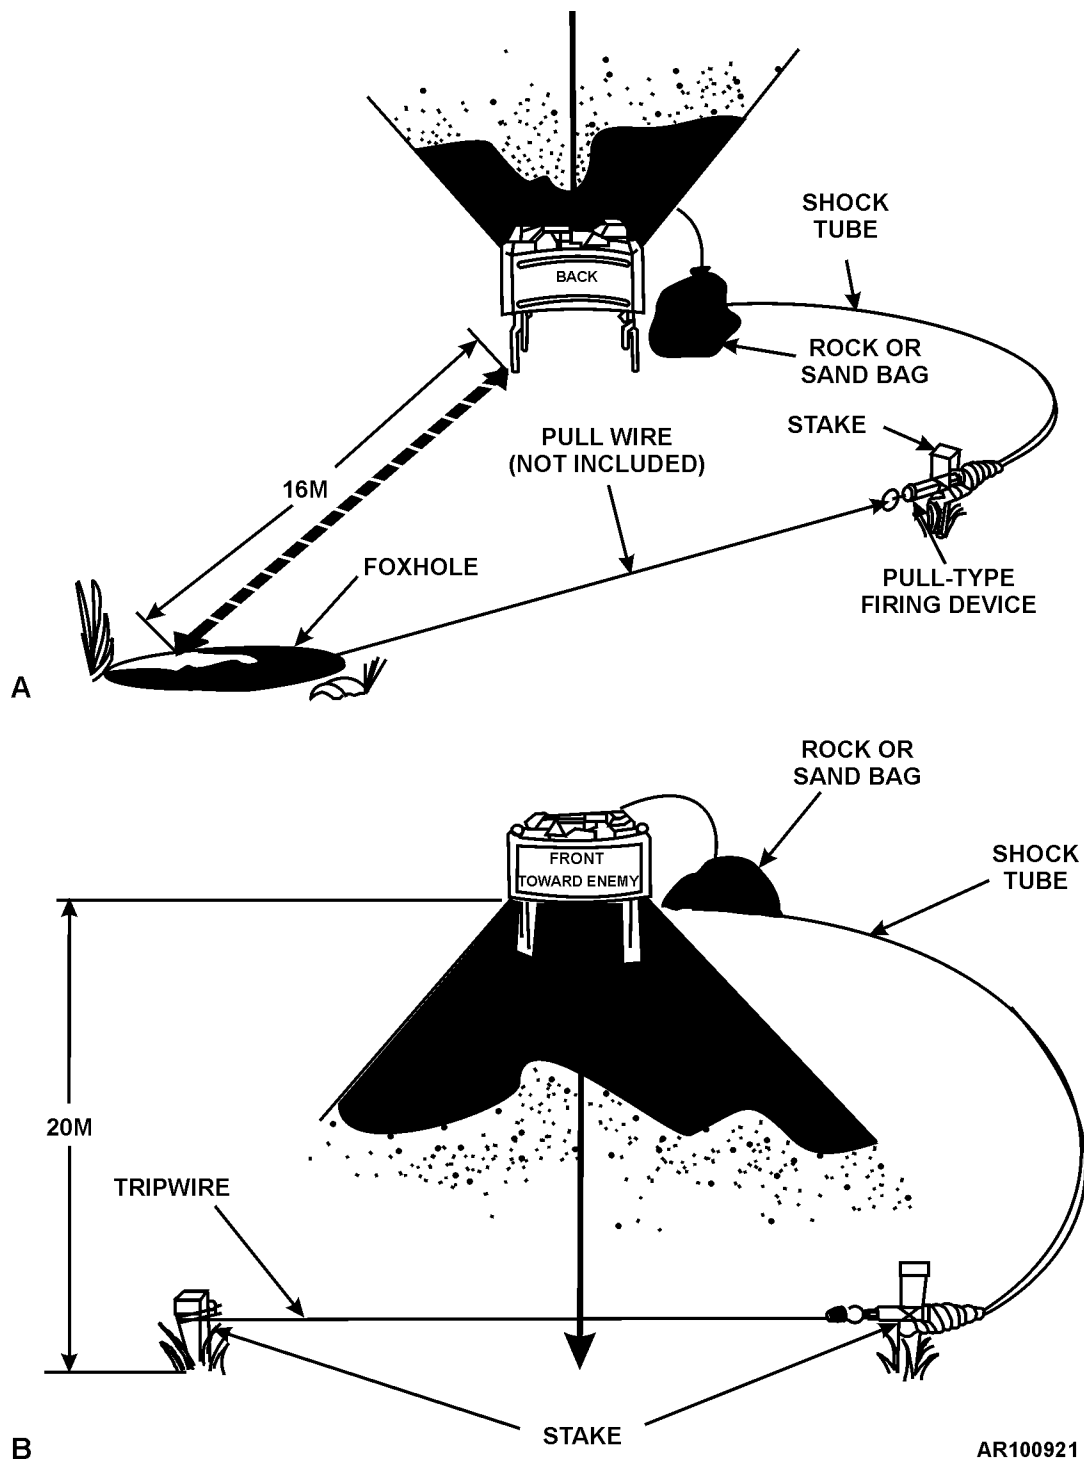

Figure 2-12.5. Mine M18A1 set up for non-electric detonation with shock tube.
- (1) *For pull-wire initiation:*
- (c) Fasten one end of detonating cord to blasting cap that is attached to firing device ((b) above) by means of tape (fig. 2-12.5, view A).
- (d) Fasten firing device securely to a firmly emplaced stake (fig. 2-12.5, view A) by means of tape, wire, twine, or anchor cord.
- (i) Attach pull-wire securely to pull ring of firing device. Pull-wire should be of sufficient length to allow actuation of firing device from a protected position at least 16 meters rearward (minimum safe distance protected position) from emplaced mine (fig. 2-12.5, view A).
- (b) Use same procedures used in (1)(a) through (h) above for preliminary steps to arm mine.
- (c) Stretch tripwire across a trail or other avenue of approach, and securely attach firing device to two firmly emplaced stakes at a distance of approximately 20 meters forward of the mine (fig. 2-12.5, view B).